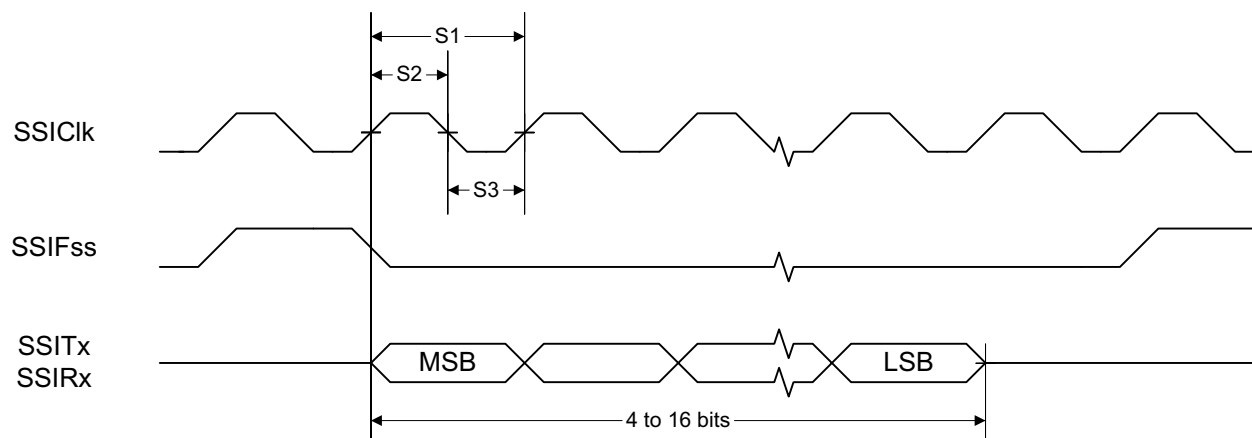
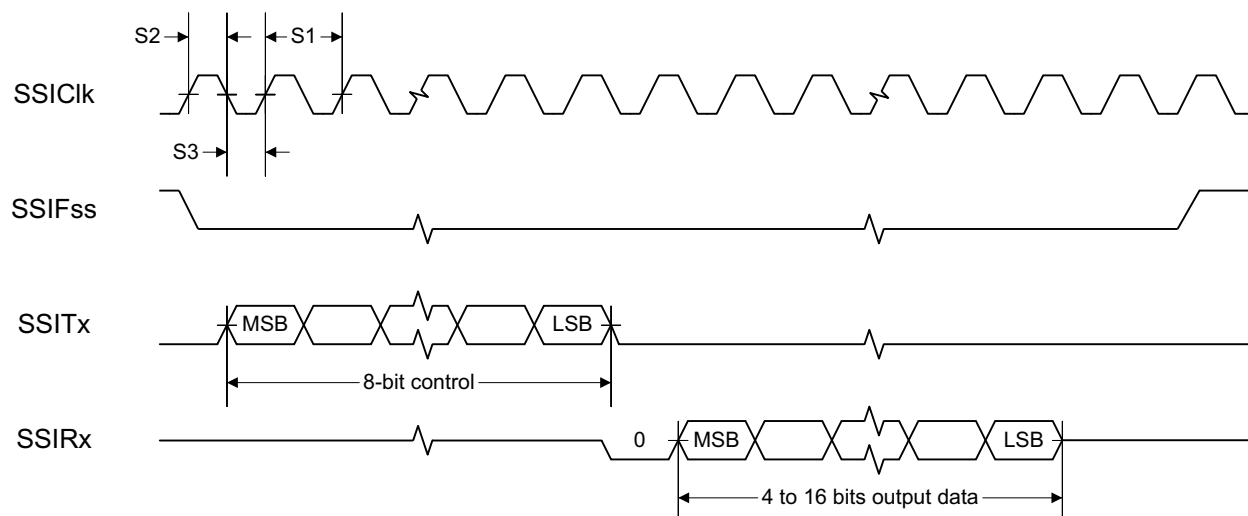
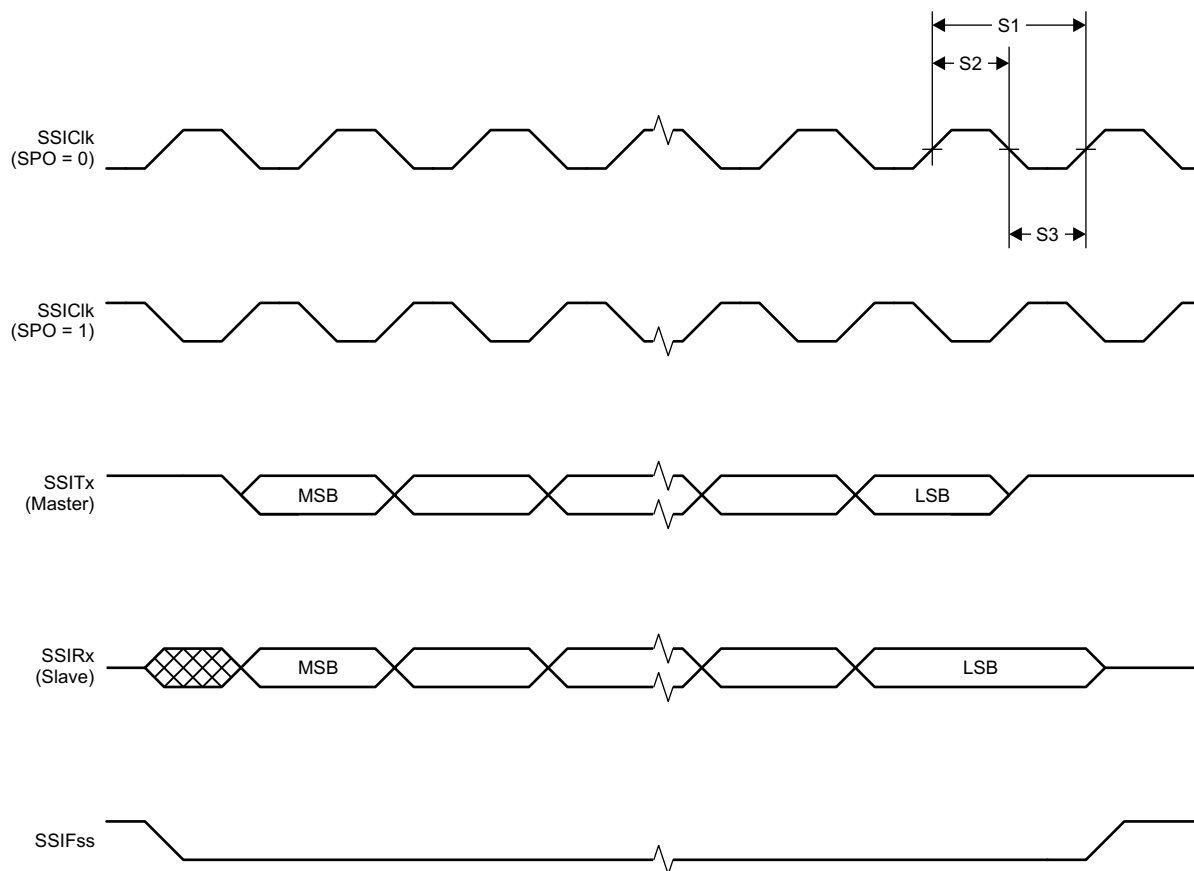

Figure 5-1. SSI Timing for TI Frame Format (FRF = 01), Single Transfer Timing Measurement
Figure 5-2. SSI Timing for MICROWIRE Frame Format (FRF = 10), Single Transfer
Figure 5-3. SSI Timing for SPI Frame Format (FRF = 00), With SPH = 1
(2) Applications using RCOSC_LF as sleep timer must also consider the drift in frequency caused by a change in temperature (see Section 5.13).
(3) T_A = -40°C to 85°C, V_{DD}S = 1.7 V to 3.8 V, unless otherwise noted.
(4) T_C = 25°C, V_{DD}S = 3.0 V, unless otherwise noted. Device operating as SLAVE. For SSI MASTER operation, see Section 5.23.
(5) Refer to SSI timing diagrams Figure 5-1, Figure 5-2, and Figure 5-3.
(1) Device operating as MASTER. For SSI SLAVE operation, see Section 5.22.
(2) Refer to SSI timing diagrams Figure 5-1, Figure 5-2, and Figure 5-3.